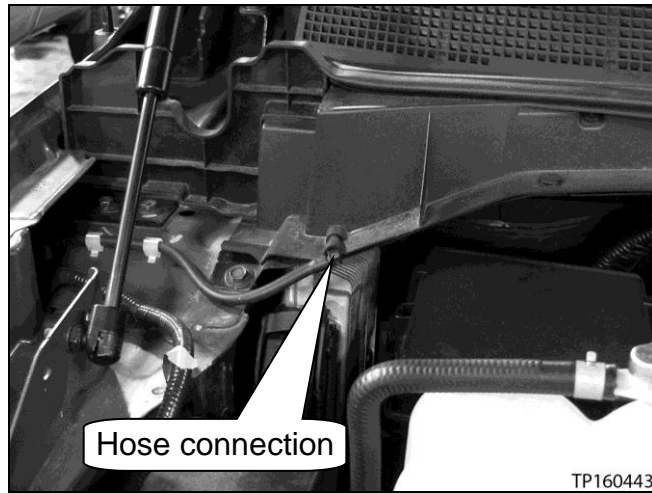

Figure 114
e. Connect the washer nozzle supply hose (see Figure 114).